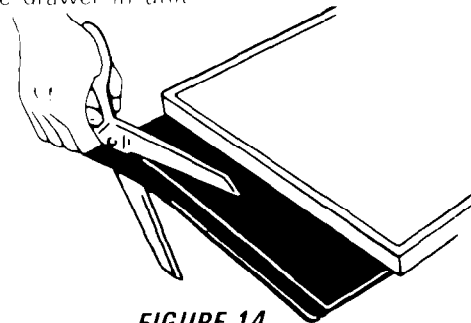

FIGURE 14
5. Use a pair of scissors and cut toe plate along this line. See Figure 14